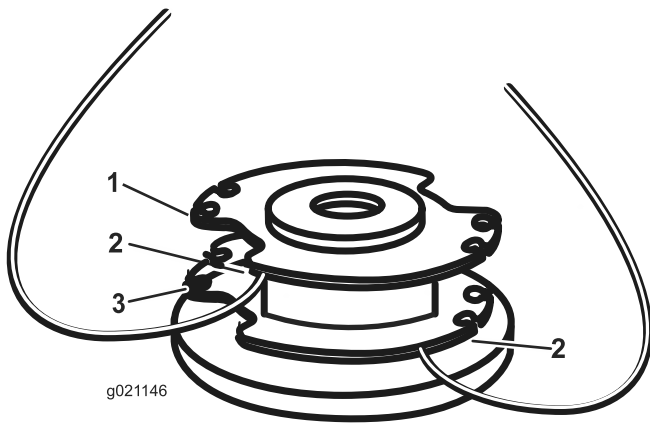

Figure 12
3. Insert the string into the anchor hole in the upper part of the spool (Figure 12).